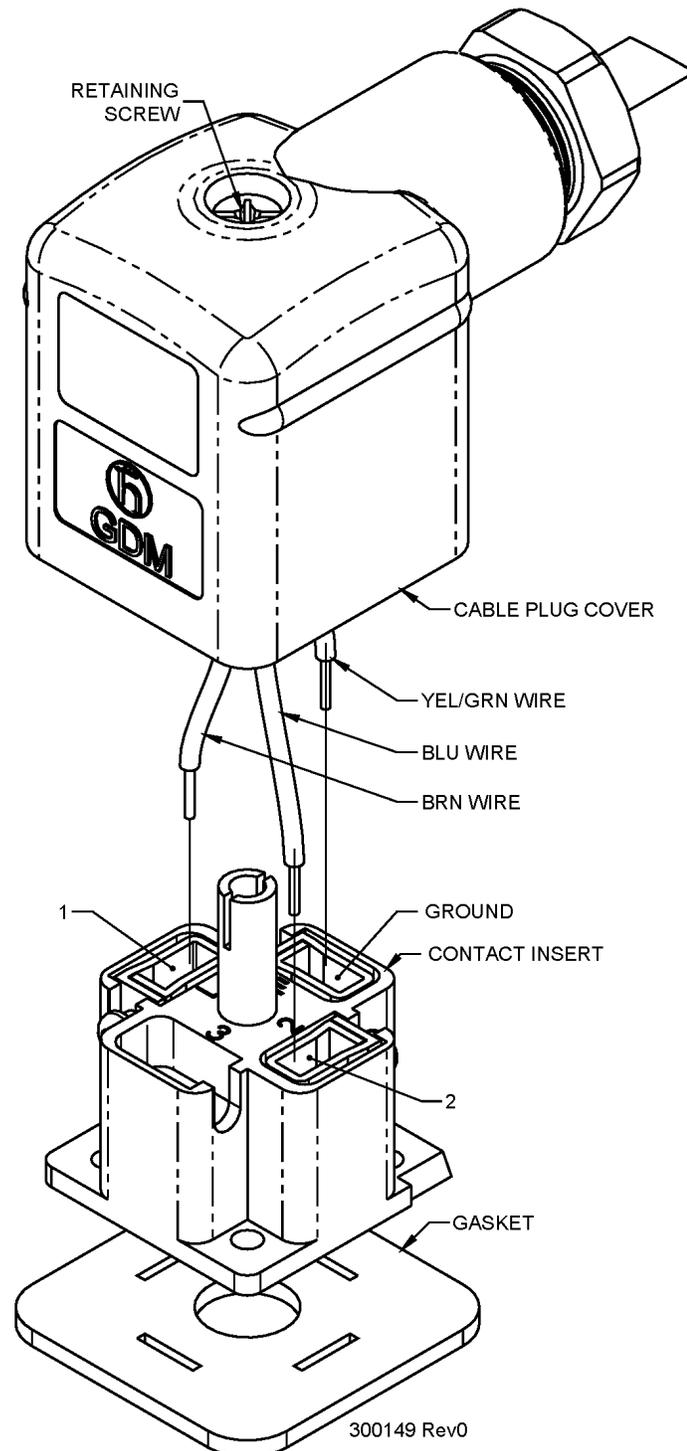

Figure 29 – Solenoid Valve Cable Plug Connections
8. The ends of the new harness are already stripped and tinned. Remove the contact insert from the new valve connector and feed the harness cable through the connector cover. Terminate the leads in the contact insert according to the table in Figure 29 below:
9. Orient the contact insert as shown in Figure 29 above and re-insert it into the cover.